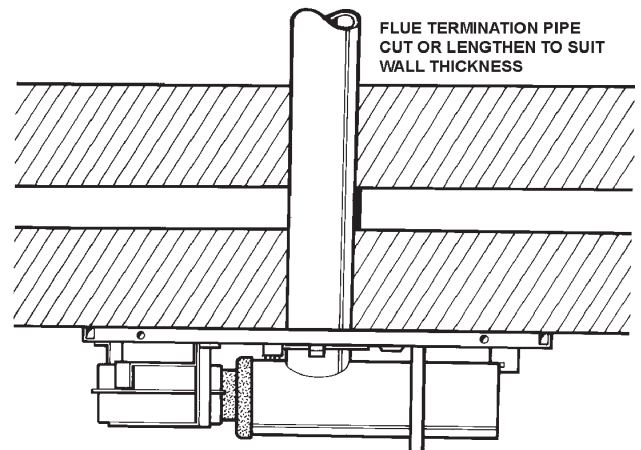

FIG. 12
6. The flue termination pipe may required to be shortened or lengthened depending on wall thickness. (See Fig. 12).